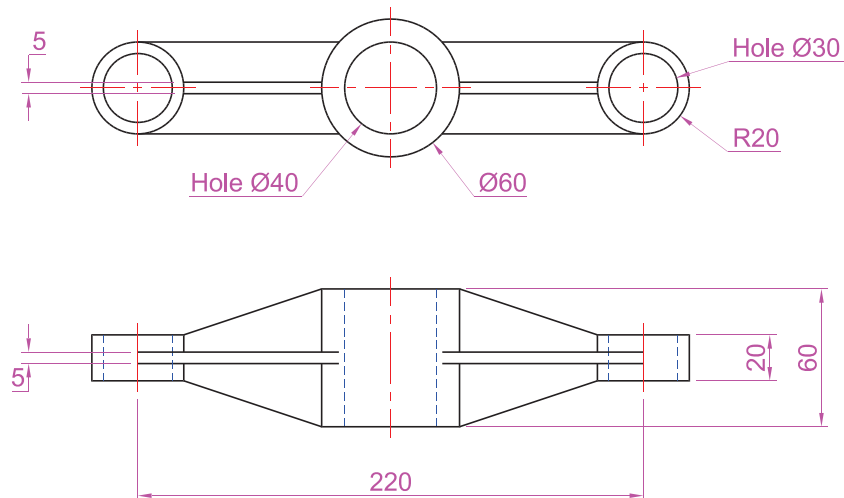

Fig. 14.21 First example – Slice – the two-view drawing
1. Construct a 3D model of the rod link device shown in the two-view projection in Fig. 14.21 on a layer colour green.